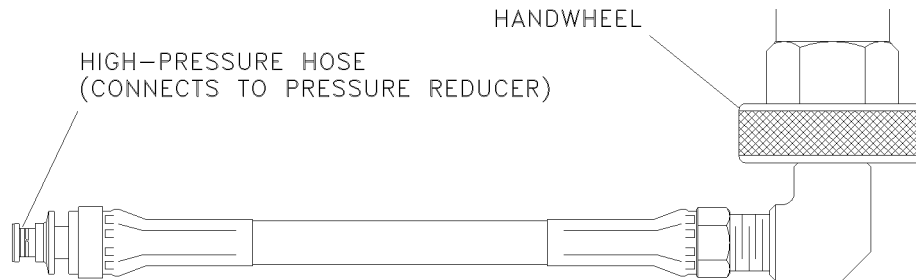

Figure 077-3-8. High-Pressure Hose Assembly
2. High-Pressure Hose Assembly. The high-pressure hose of the high-pressure hose assembly (Figure 077-3-8) directs high-pressure air from the cylinder valve to the pressure reducer during normal operation on SCBA Configurations 1, 2, and 3.